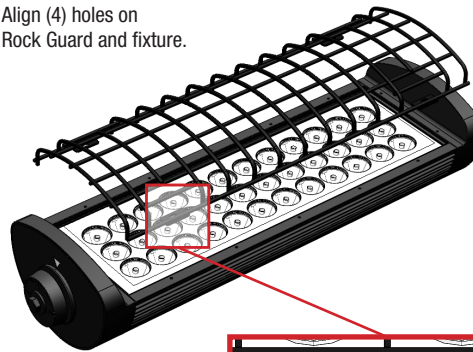

Fig 2
- 2) Use the screw slots to position the Rock Guard on the fixture. **Fig 2**